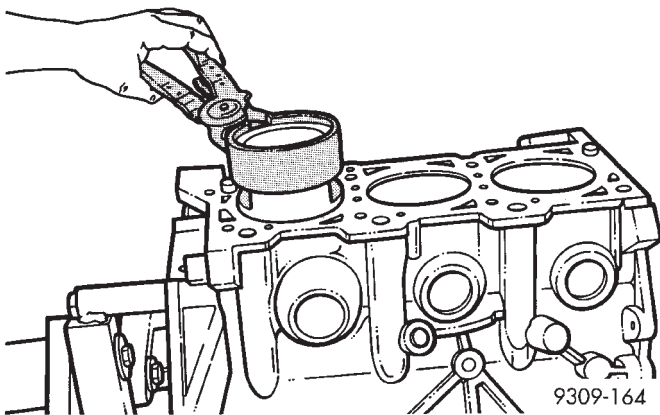

Fig. 14 Installing Piston
(1) Before installing pistons and connecting rod assemblies into the bore, ensure that compression ring gaps are staggered so that neither is in line with oil ring gap.
(2) Before installing the ring compressor, make sure the oil ring expander ends are butted and the rail gaps located as shown in (Fig. 14).